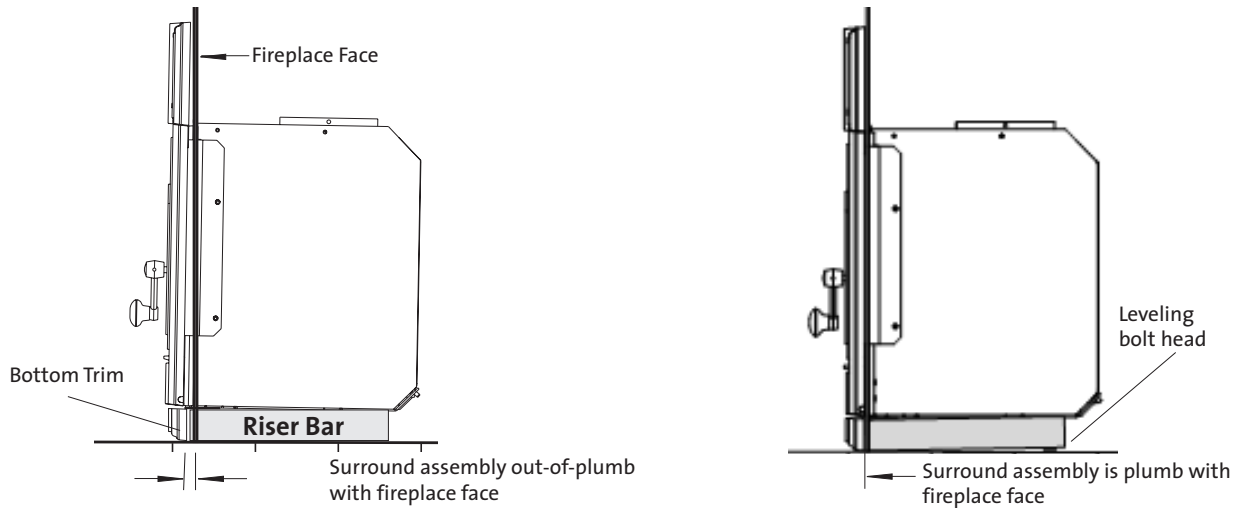

Figure 11. Using the leveling bolts to adjust surround assembly alignment.
**If the Bottom Trim section is to be installed with the Surround assembly, you must use the leveling bolts to plumb the front-to-back pitch of the firebox.** See fig. 11.